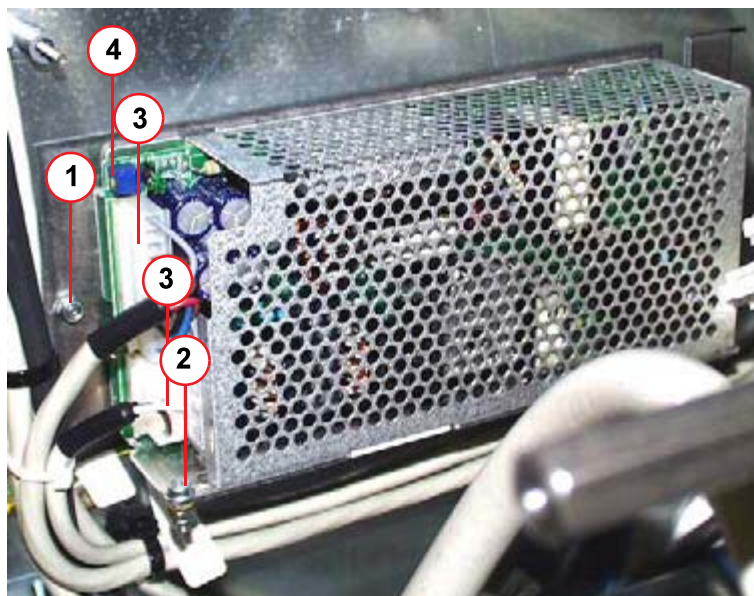

Fig. 15: AC-DC converter
- Disconnect the SNT.PE ground wire connection (2/Fig. 15 / p. 25).
- Unplug the two plug-in connections; to do this, slightly press back the front latching tab on the plug-in connector (3/Fig. 15 / p. 25).
- Remove the mounting screws. (1/Fig. 15 / p. 25).
- Reconnect the two plug-in connectors (3/Fig. 15 / p. 25).